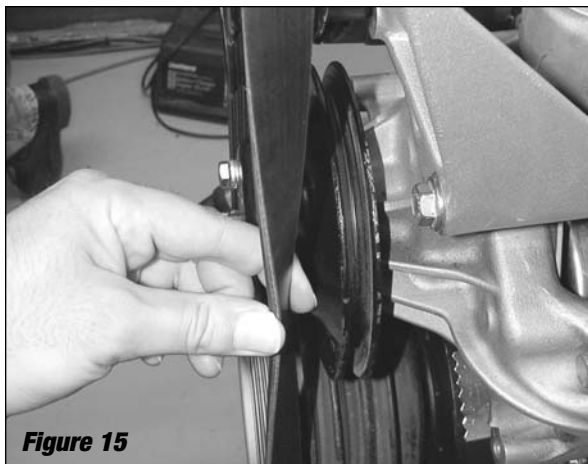

Figure 15
- B. Install the supercharger drive belt. Adjust tension on the belt by sliding the idler pulley along the slot in the idler pulley bracket. When proper tension is attained, you should only be able to twist the belt 90 degrees using your thumb and forefinger (**See Figure 15**).